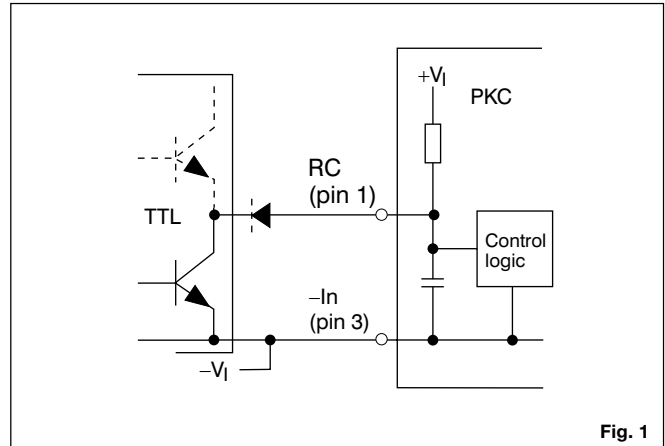

Fig. 1
Turn-on or turn-off can be realized by using the RC-pin. Normal operation is achieved if pin 1 is open (NC). If pin 1 is connected to pin 3 the PKC DC/DC power module turns off. To ensure safe turn-off the voltage difference between pin 1 and 3 shall be less than 1.8 V. RC is TTL open collector compatible (see fig. 1). Pin 1 is an output and no current should be driven into pin 1. Use a diode if necessary e.g. totem pole TTL logic. The internal pull-up resistance is  $15 \text{ k}\Omega$ .